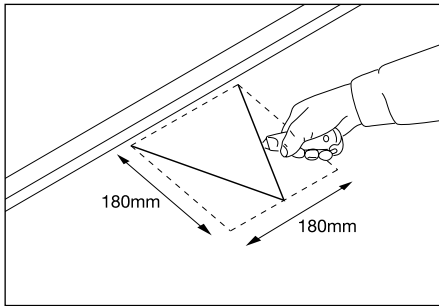

Fig 2
- 2 Make a 'V' cut in the underlay centred on the spigot position 180mm x 180mm h x w, with the base of the V at the bottom of the batten (Fig. 2).